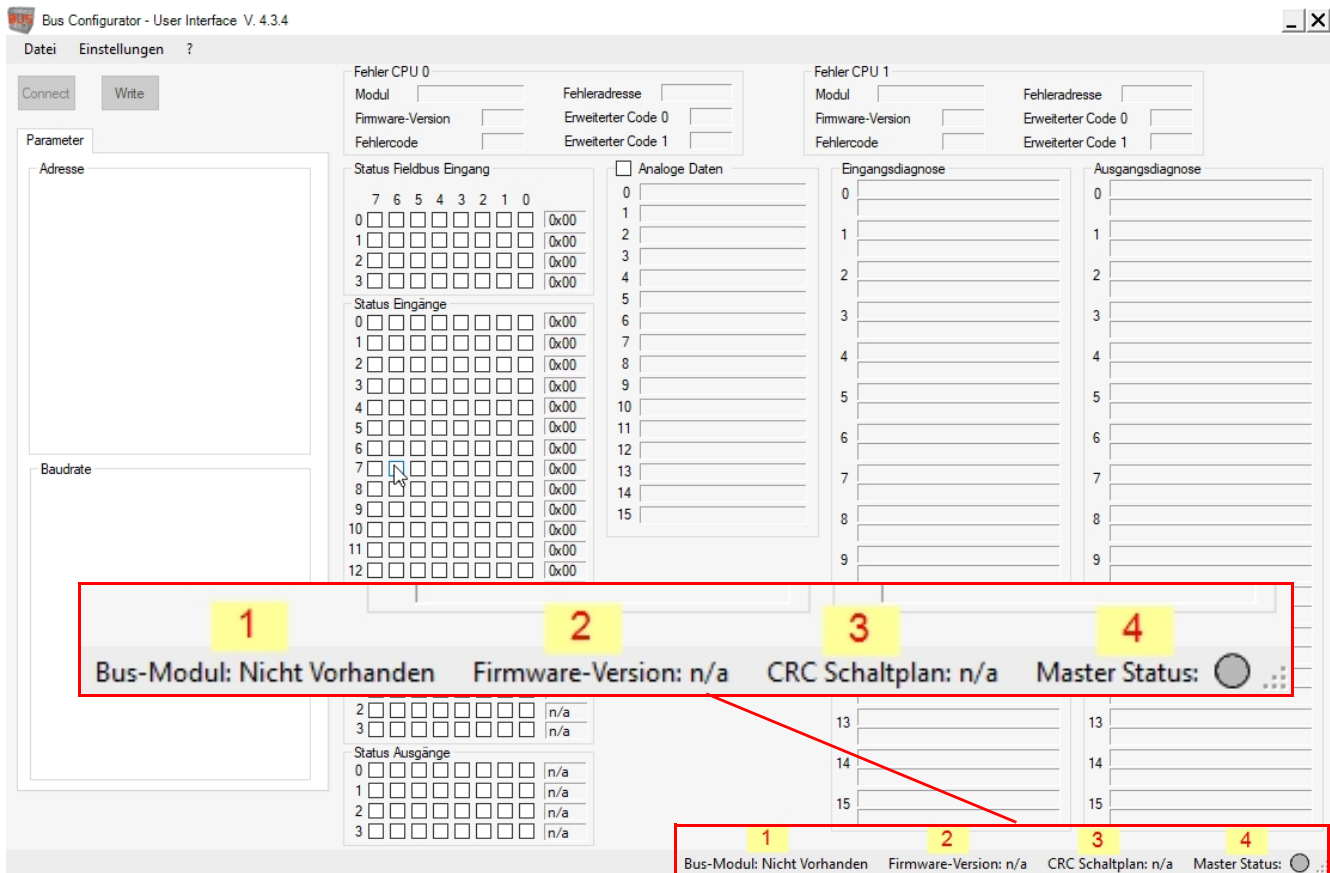

Figure 10
The program detects that a bus module is connected (Figure 10). The status bar shows:
- the fieldbus model (Figure 10, digit 1),
- the firmware version (Figure 10, digit 2),
- the schematic CRC (Figure 10, digit 3),
- The master status and the firmware version (Figure 10, digit 4):
As soon as the module is connected, it is detected and the operator can configure the parameters by selecting the various ranges shown in Figure 10. The configuration data is sent to the module with the **WRITE** button.
As soon as the bus module receives the data, the configurator goes into status monitoring. The status of input, output, analogue data and the associated diagnostics are mapped in Figure 10.